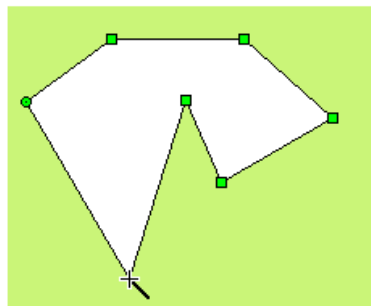

Figure 4-33: Drawing a polygon
- Move the mouse to another position in the screen, and at this moment the system will draw a line automatically. Move the mouse to other appropriate positions, and each time the left key is clicked a side of the polygon will be drawn. Right click the mouse to complete polygon drawing. See Figure 4-33.